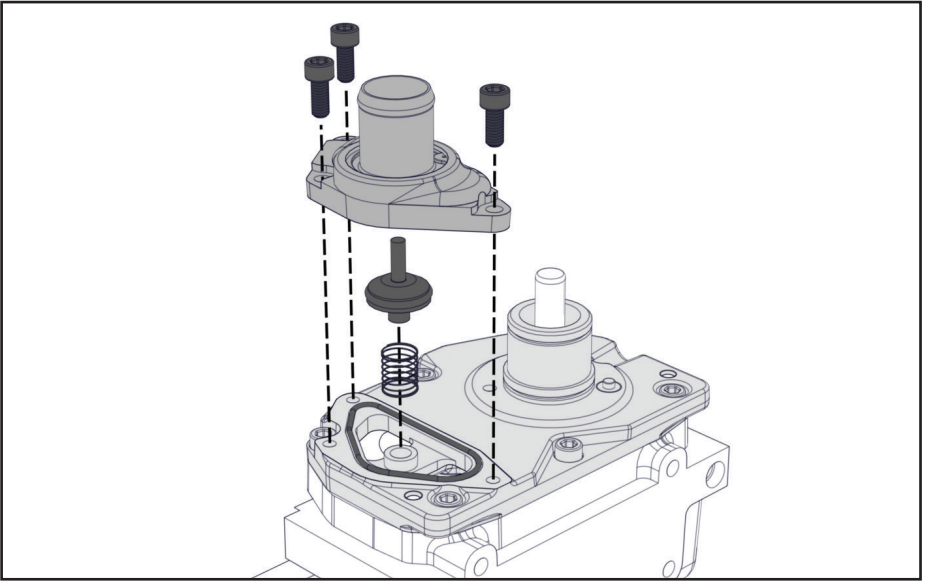

Figure 23 — Install intake assembly
- ☐ Install the intake assembly O-ring, and the intake poppet assembly (including the spring and poppet) onto the compressor front cover (Figure 23).